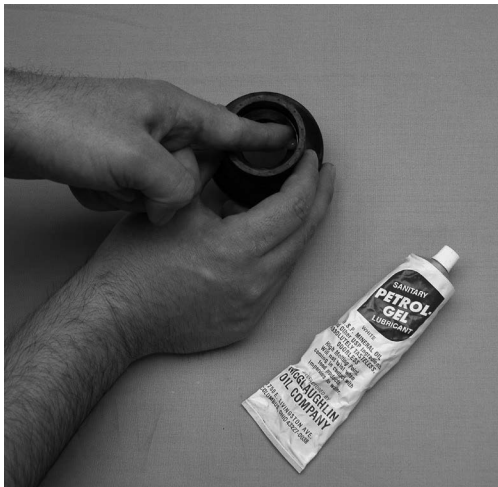

Figure 3-6 Lubricate Rear Seal
- B. Lubricate the inside metal surface of the rear seal (Fig. 3-6) and install it onto the auger shaft. DO NOT lubricate the outside of the rear auger seal.